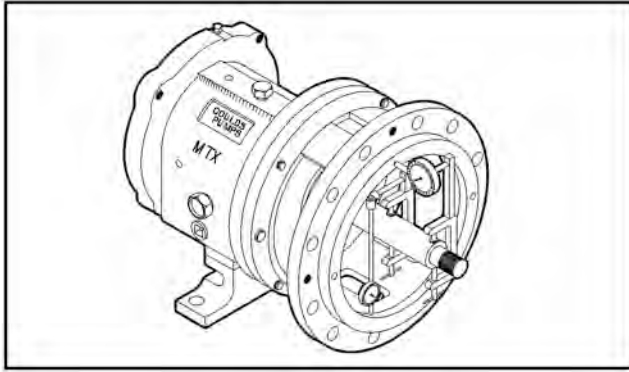

Figure 51:
5. Install inboard labyrinth oil seal (333A) into adapter (108) / bearing frame (228). It is an O-ring fit. Position the labyrinth seal drain slots at the bottom (6 o'clock) position. (Fig. 51).